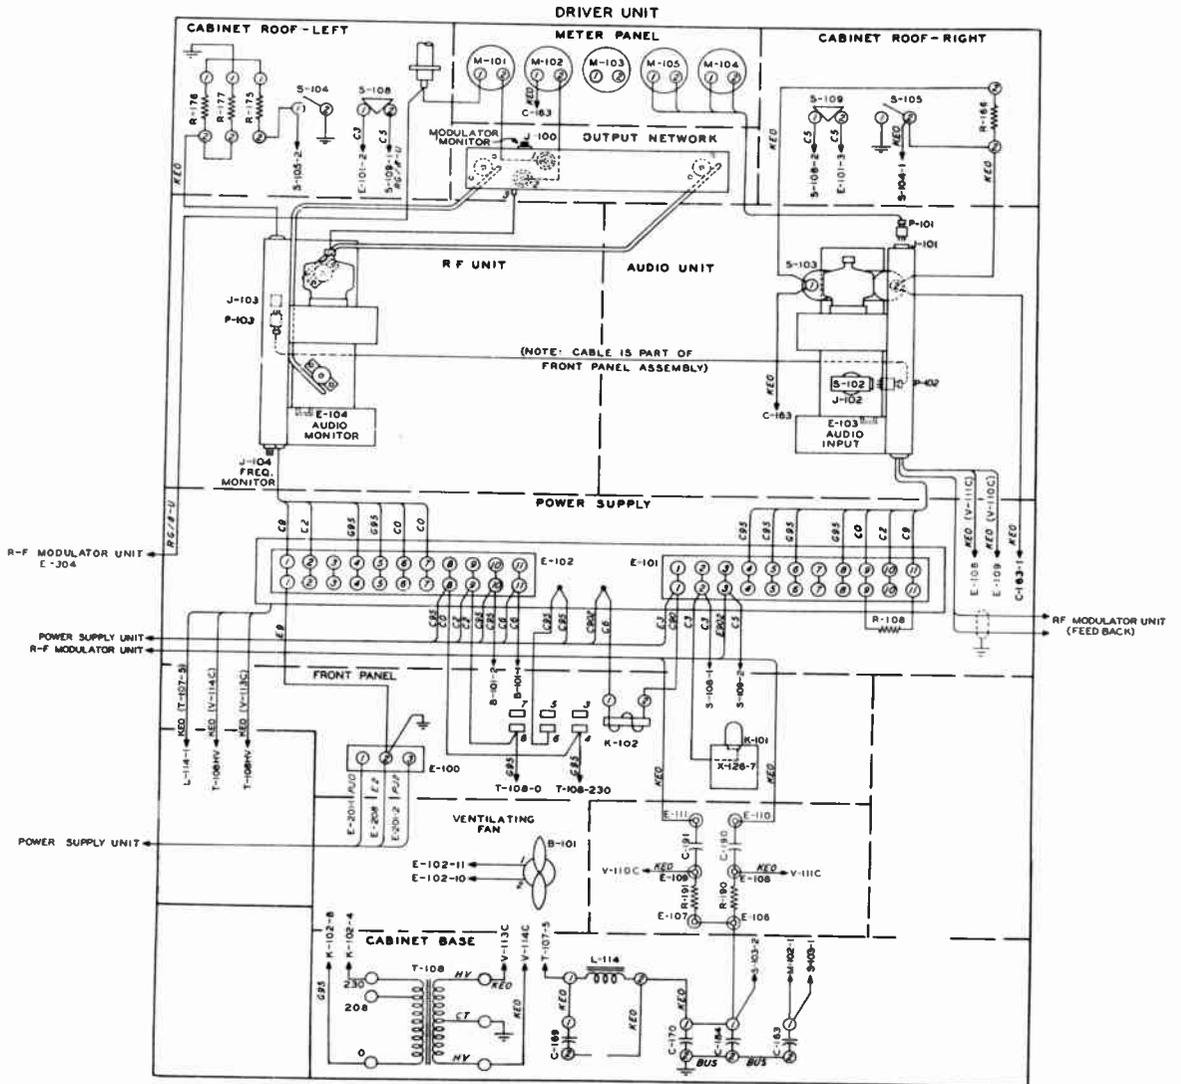

Figure 2-4. Driver Cabinet Installation Connections.
- i. Complete all internal connections including inter-chassis cables and connections to terminal boards E-101 and E-102 on the rear of the low voltage power shelf. Refer to the Installation Connections Diagram, figure 2-4, to the Inter-Unit Cabling Diagram, figure 8-4, and to tags on the wires for assistance in making the proper connections.
Coaxial frequency monitor connector J-104 is located on the bottom of the rf chassis as shown in figure 2-4. The transmitter is shipped with a mating plug connected to J-104. Bring a piece of RG-8/U coaxial cable through the proper hole in the floor of the cabinet as shown in figure 2-1. Connect the coax to the plug associated with connector J-302.
Coaxial modulation monitor connector J-302 is supplied with the proper mating plug. Figure 2-4 shows this connector located on the top of the rf output network box. Thread a piece of RG-8/U coaxial cable through the proper hole in the floor of the cabinet as shown in figure 7-5. Connect the coax to the plug associated with connector J-302.